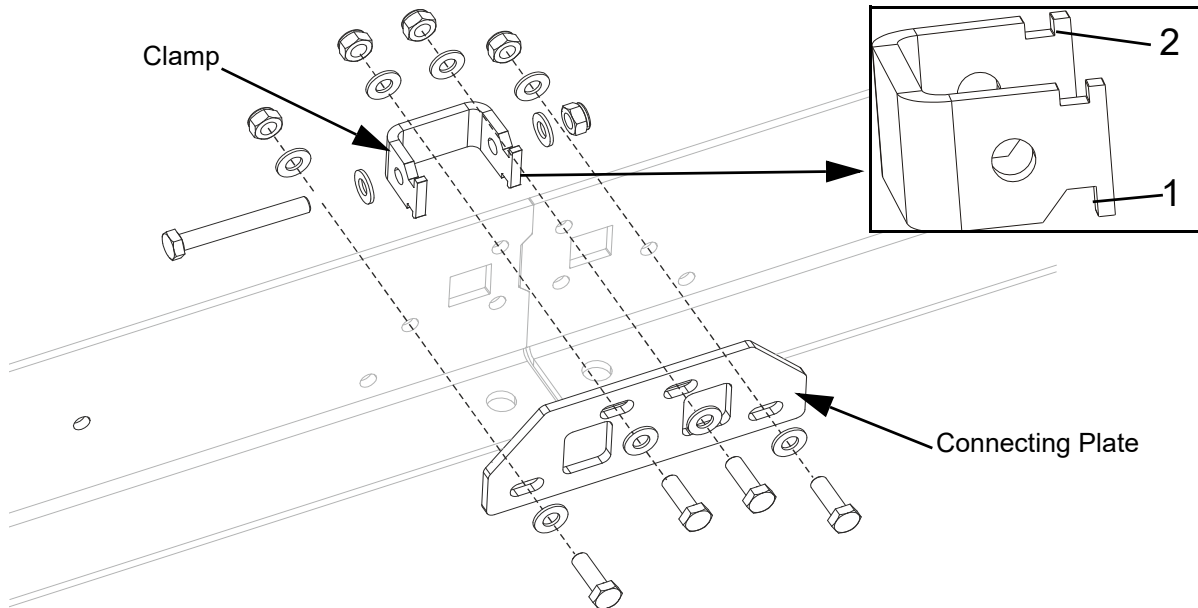

FIG. 3-6
3. Connect the bed sections using the connecting plate, clamp and bolts shown in Figure 3-6. Set the clamp in place by inserting the larger notch ① in first and tilting the clamp in then upward to catch the smaller notch ②.
See Figure 3-6.